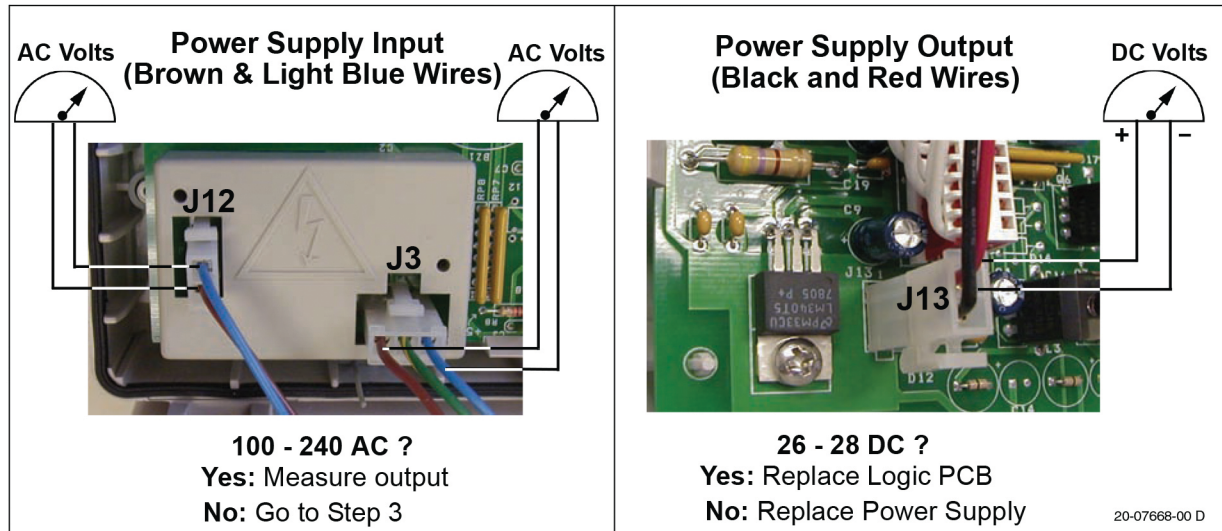

Figure 20 AC and DC Readings
**Table 1 Spare Parts Listing (see Figure 20 on page 27)**